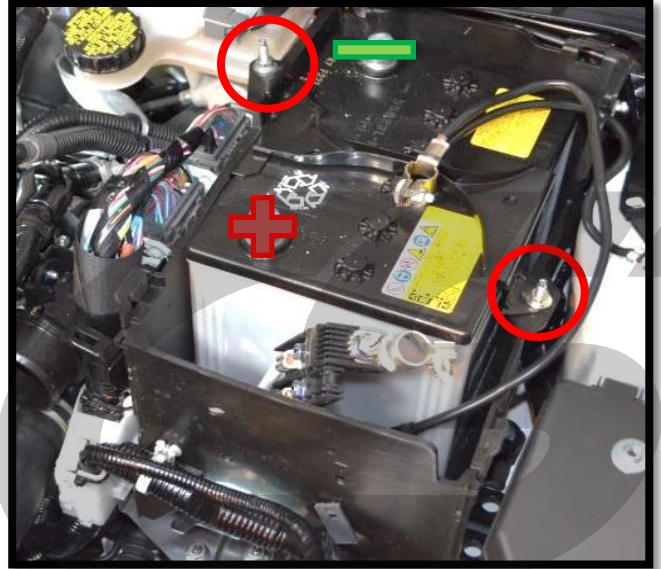

Figure 2b
b. **Disconnect the battery.** Disconnect the negative terminal first with a 10mm wrench, then disconnect the positive with the same wrench. Terminals are labeled in **Figure 2b** for reference.
c. **Remove the two 10mm nuts from the battery tie down bracket.** Shown **circled in red** in **Figure 2b**.